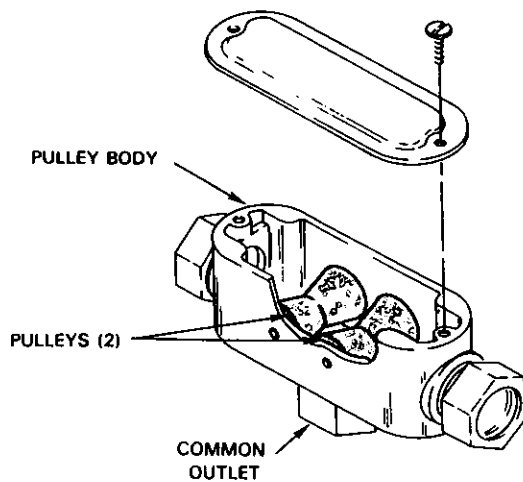

Figure 1-13. Tee Pulley
4. Tee Pulley. (Model TP-1) — For situations where a cable output from the control head must be split into two cables and terminate at two points (two mechanical gas valves) or an input to the control head must come from two sources (two pull stations), a tee pulley is available. The tee pulley replaces two standard pulleys (See Figure 1-13).